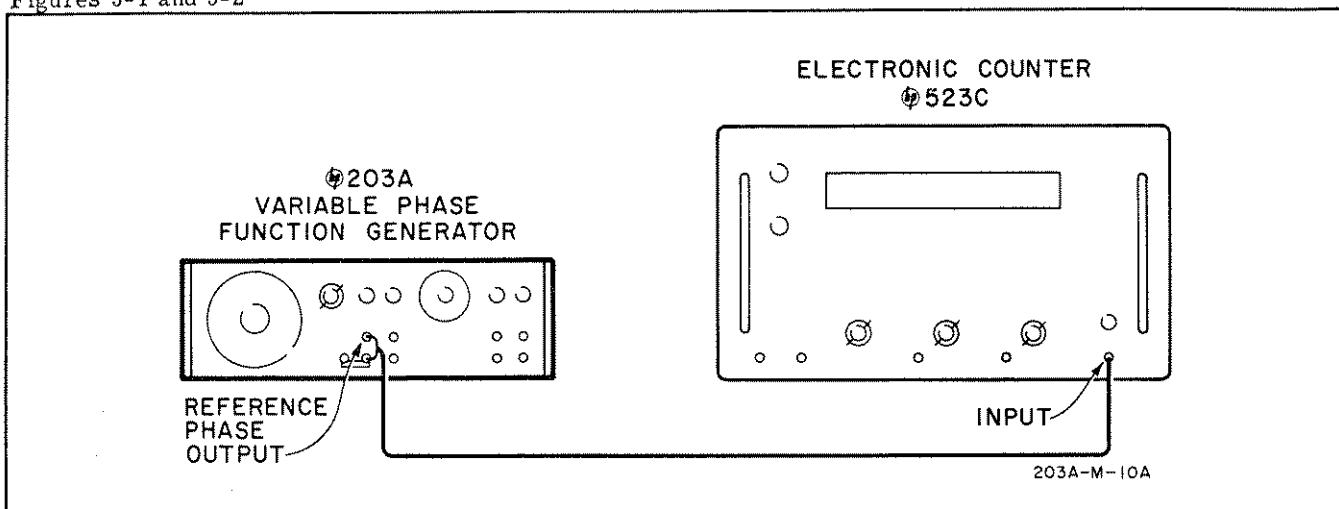

Figure 5-1. Frequency Dial Calibration
- Connect Model 203A as shown in figure 5-1.